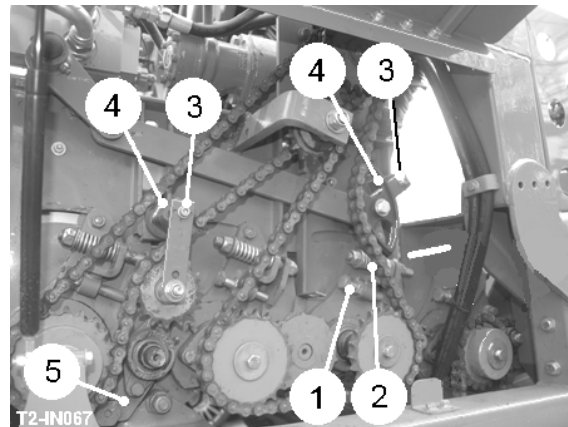

Fig 2
The clod rollers will normally be adjusted to run approximately 1 to 2 mm away from the tip of the scrolls for effective haulm removal. The clod roller gap is set by adjusting the stop bolts (item 1, fig 2) against the spring tension on the clod roller mounting plates. Spring tension is adjusted on the spring tie bolts (item 2, fig 2).
Drive chain tension is set by releasing the bolt (item 3, fig 2) and rotating the tensioner mounting (item 4, fig 2).
Each clod roller is fitted with a scraper (item 5, fig 2) which needs to be closely adjusted to remove loose soil from the rollers.